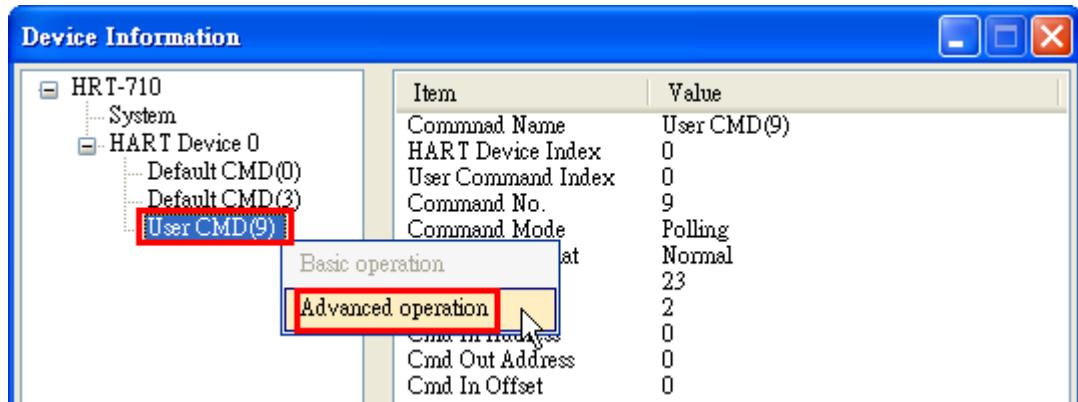

Figure 30-6
- [3] In the “Device Information” of HG_Tool, right click the “User CMD9” and choose the “Advanced operation” option (like Figure 30-6) to show the received data of CMD9 (like Figure 30-7).